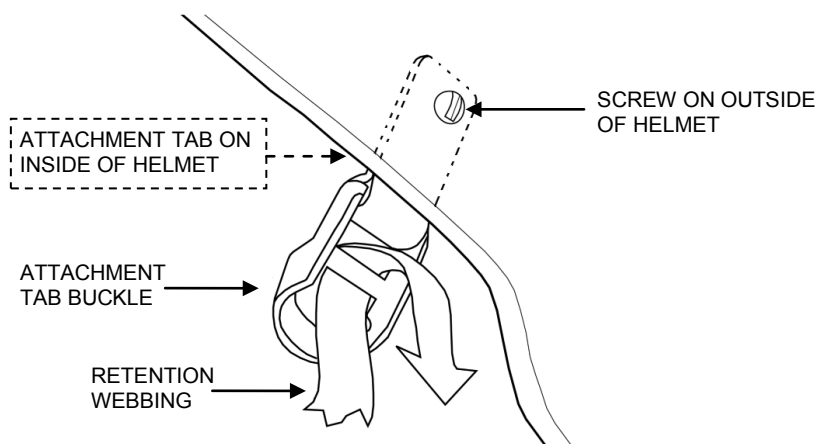

Figure 5. H-Back Retention System Attachment Tab and Buckle.
- a. For H-back retention systems, insert and thread the four legs of the chinstrap webbing into their corresponding buckles, as shown in Figure 5. Ensure webbing is not twisted. Slide elastic bands over loose ends of webbing.